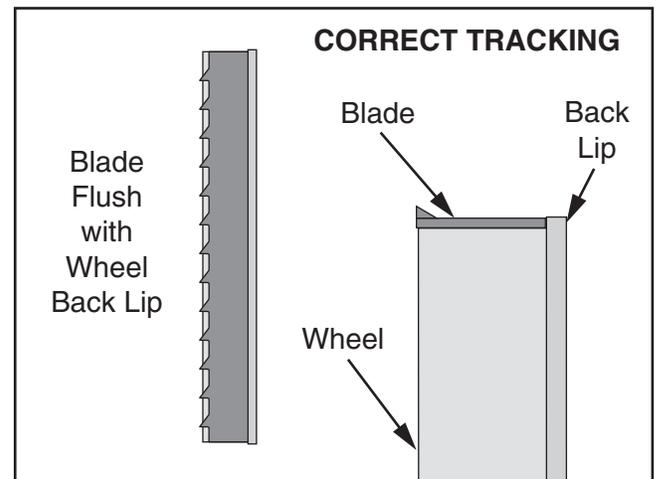

Figure 15. Correct tracking of blade on wheel.
8. Verify blade is flush against back lip of upper and lower wheels (see **Figure 15**).